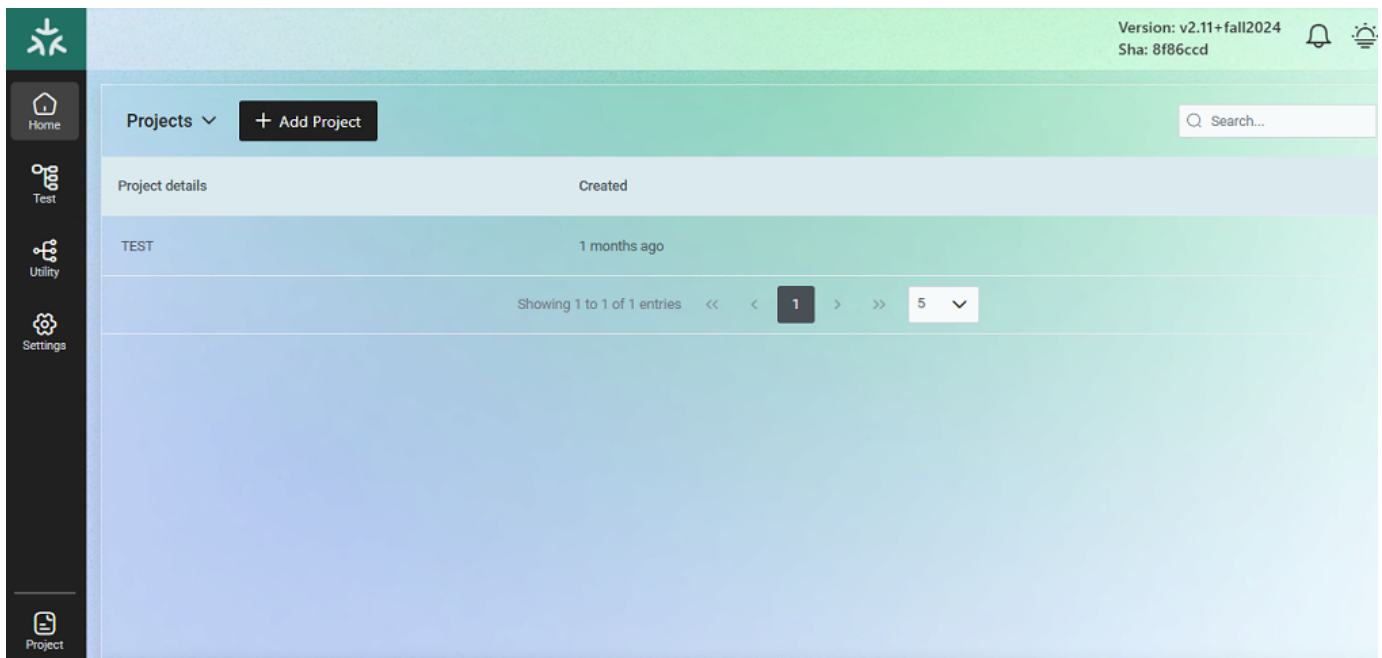

Figure 26. Create project in TH tool
1. Click **Add Project**, see Figure 26.